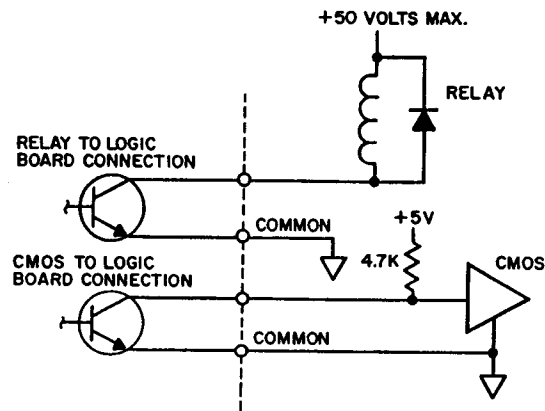

Figure 4. Relay Connections
2.6 Open Collector Output Connections (refer to Figure 4)